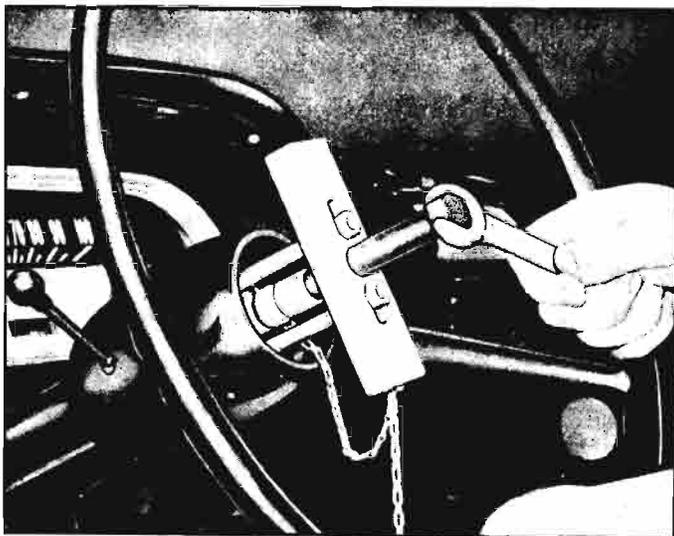

Fig. 4-8—Steering Wheel Removal
4. Use Tool J-2927 to remove steering wheel (fig. 4-8).